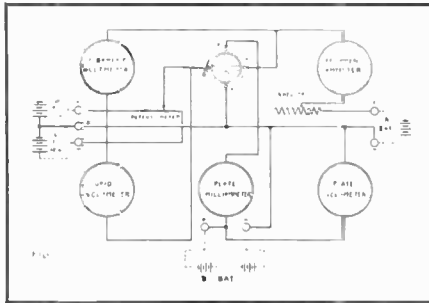

Figure 1. Wiring diagram of a standard tube testing set.
In Fig. 1 is a simple diagram showing the instruments in the usual tube testing set and the manner of connecting them up. Before trying to explain the function of these various instruments, consider the diagram in Fig. 2 which shows the three divisions of an ordinary vacuum tube circuit; the filament circuit, No. 1;
1. The diagram shown in Figure 1 is not strictly the true diagram of the tube tester now in popular use among radio enthusiasts. The diagram illustrates the connections of the laboratory type of tester which is not as frequently employed as the usual "service" type now in demand.—Tech. Edtr.
Figure 1. A back panel view of the super-frequency receiver showing the arrangement of parts and layout. It is important that this layout be strictly adhered to if the specifications given in the accompanying text are to produce results. The 20 meter coil is shown in place with the 40, 80 and 200 meter coils above.